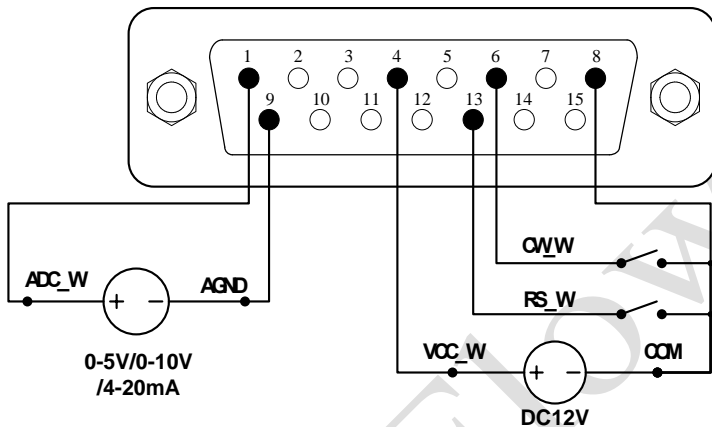

Figure 8 Wiring diagram of external control mode connecting with external DC12V power source
- When the power supply is cut off, connect the circuit according to the following wiring Figure 8 or 9, and connect the DB15 interface to the back interface of the pump